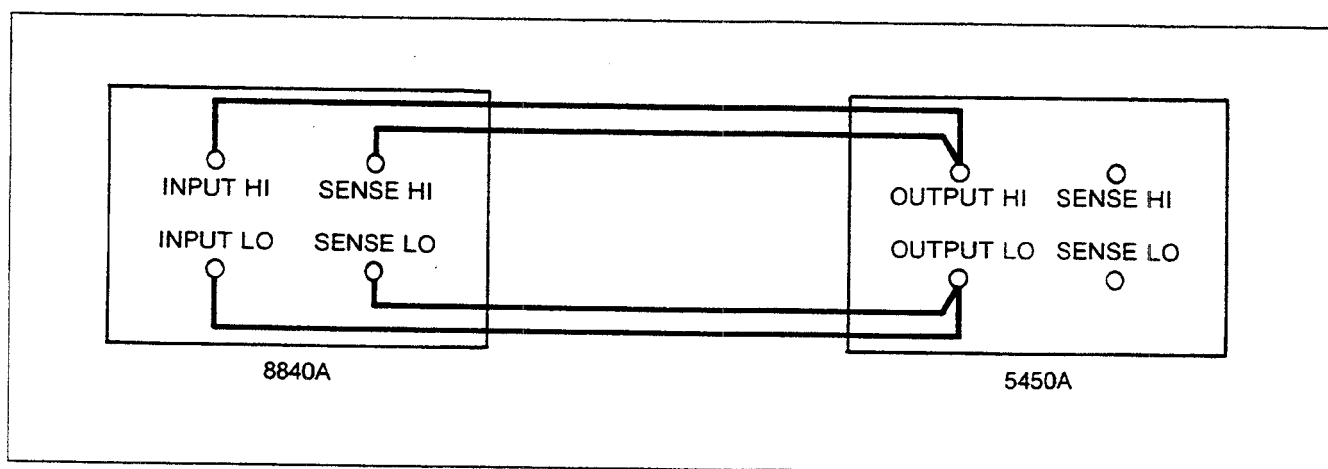

Figure 6-4. Optimizing Use of the 5450A
2. Connect the UUT to the 5450A as shown in Figure 6-4.
13. Using the same configuration shown in Figure 6-4, verify that the UUT measures the same value (within 1 digit) in 2-wire ohms (using the offset feature to correct for 5450A floor error) as in 4-wire ohms. If the readings differ by more than 1 digit, reenble the calibration mode and repeat steps 2 through 8.